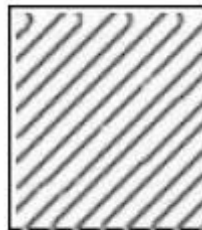

Figure 5-1 Recommended stencil strips
- (1) When making the stencil of the thermal pad at the bottom of the NM1 module, reduce the stencil opening by 25% to reduce short circuits between the thermal pad and functional pins around the NM1 module.
- (2) To ensure better soldering, use step stencils.
- (3) Use a diagonal opening for the stencil of the thermal pad. Figure 5-1 shows recommended stencil strips.